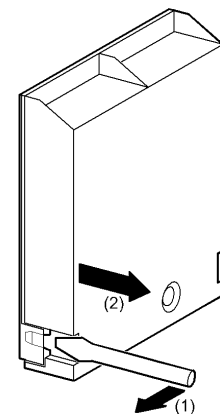

Fig.9
- Prise cover loose using screwdriver in position (1) then lever off with screwdriver in position (2) at either side. See Fig. 9.